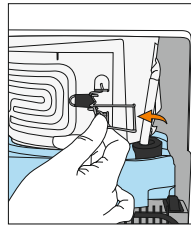

Figure 35
5. Approach the cooler from the rear and open the latch provided on the evaporator band (Figure 35)